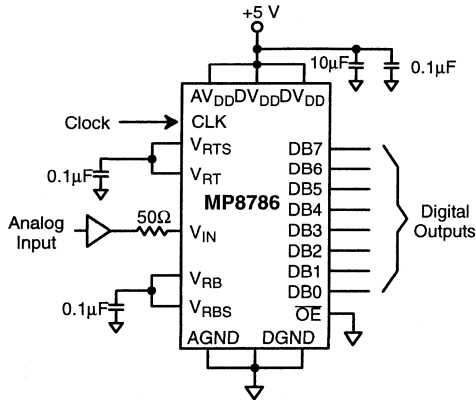

Figure 5. Typical Circuit Connections
AV_{DD} and DV_{DD} should be connected to the sample power supply source (Figure 5). The power supply (AV_{DD} and DV_{DD}) and reference voltage (V_{RT} & V_{RB}) pins should be decoupled with $0.1\mu\text{F}$ and $10\mu\text{F}$ capacitors to GND, placed as close to the chip as possible.
2. It is important to note that op amps have inductive output impedances at high frequencies which is a consequence of the emitter impedance of the typical push-pull output stage. The resulting transient ringing should be damped by inserting a resistor in series with the ADC input – typically about 50Ω . See Figure 5. The exact value may be obtained from the op amp manufacturer's data sheet.